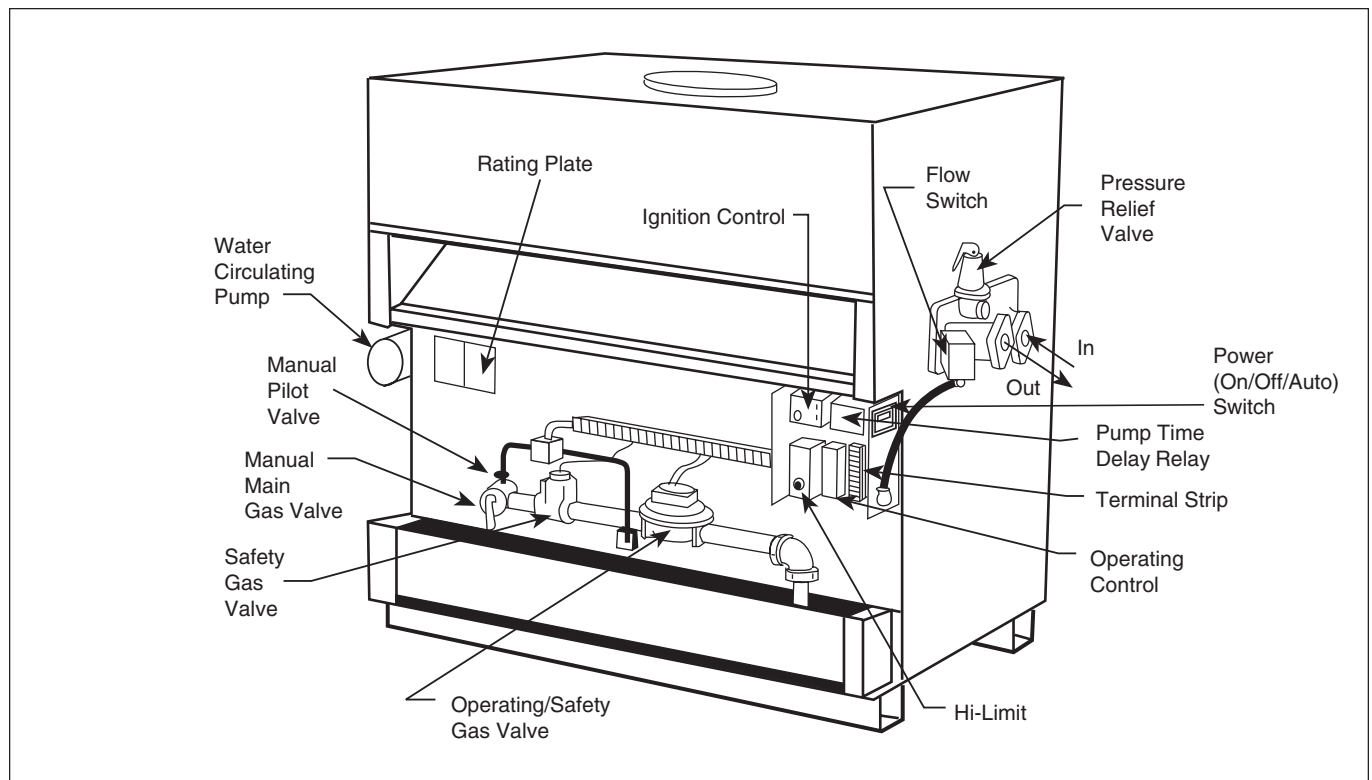

Figure 13. Controls Location.
- b. Turn off all manual gas valves and wait five minutes (Figure 13).